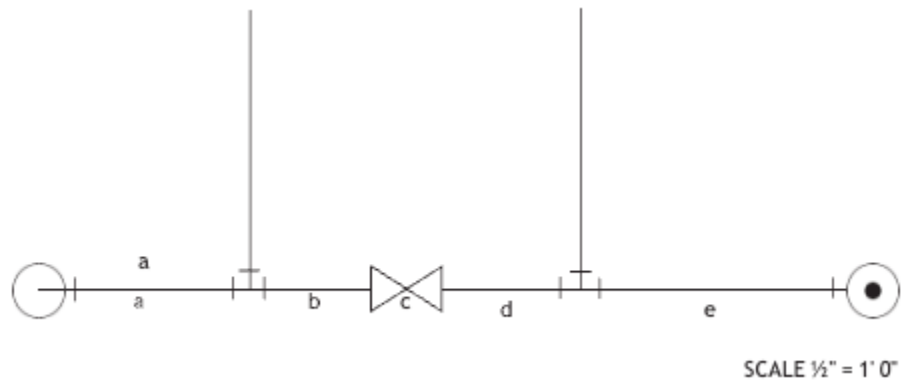

Figure 7 Illustration for Question 14
14. Find the exact length of the lettered dimensions in Figure 7, according to the scale. ****measurements may vary from answer key with different printed versions****